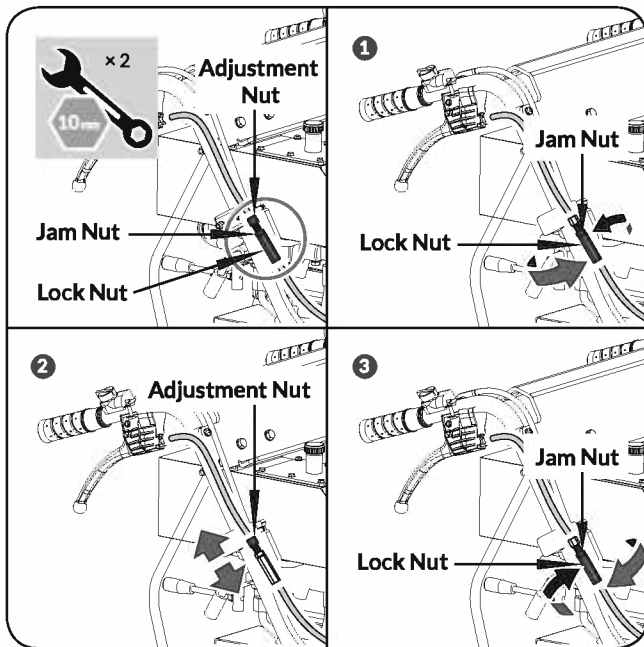

Figure 6a
1. Loosen the jam nut by turning it counter clockwise with 10mm wrench. (see **Figure 6a, Illustration 1**)
2. Tighten or loosen the cable by turning the cable adjustment nut clockwise or counter clockwise with 10mm wrench until you have reached your required tightness. (see **Figure 6a, Illustration 2**)
3. Once tightness is set, return the jam nut against the handle to hold the cable in place. (see **Figure 6a, Illustration 3**)